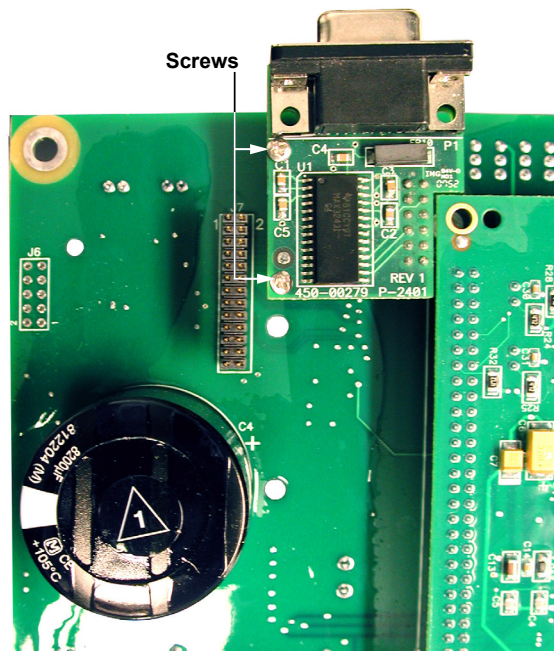

Figure 7.1-1 Main PCB, Installed RS-232 Module
1. Unscrew the two 2-56 x 1/4 screws and lock washers from the standoffs connected through the RS-232 board support standoff screw holes (Figure 7.1-1).